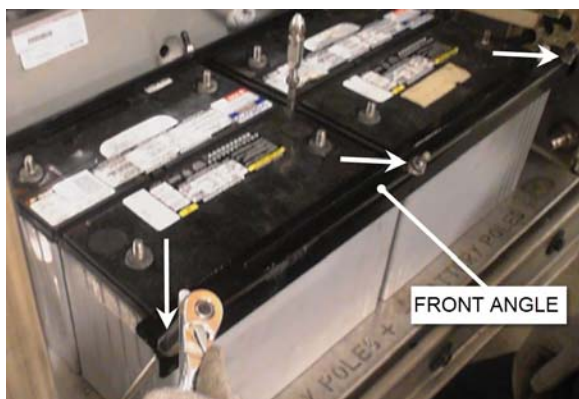

FIGURE 34: REMOVE THE FRONT ANGLE
5. Unscrew three nuts (indicated with arrows) and then remove the front angle (FIGURE 34).